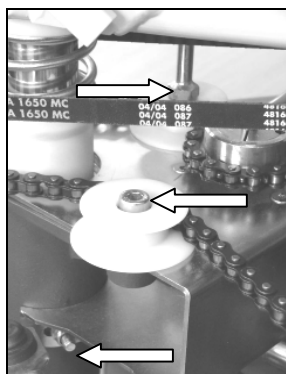

Fig. 64
- Slacken the tension of the chain to the minimum (Fig. 64)